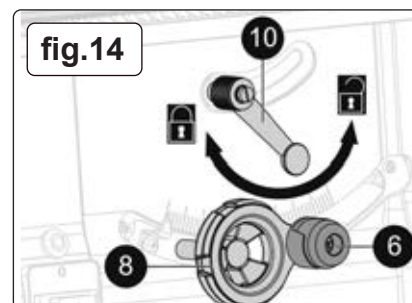

fig.14
6.2.2. To adjust the blade angle, wind the blade up fully as in 6.2.1. and loosen the bevel lock (fig.14.10) and adjust the angle by turning the bevel adjustment (fig.14.8). The angle set can be read from the bevel scale (fig.14).